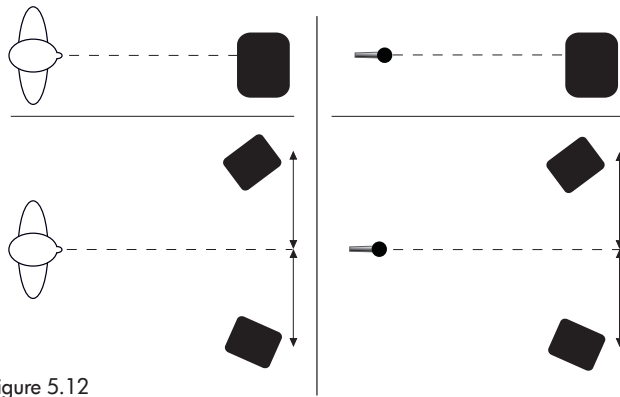

Figure 5.12
- Make sure that the height and orientation of the microphone correspond to your typical listening height and direction as illustrated below. Do not block the line of sight between the microphone and the loudspeakers. Each measurement is comprised of a low and a high frequency measuring signal first in the left and then in the right channel. (Figure 5.12)